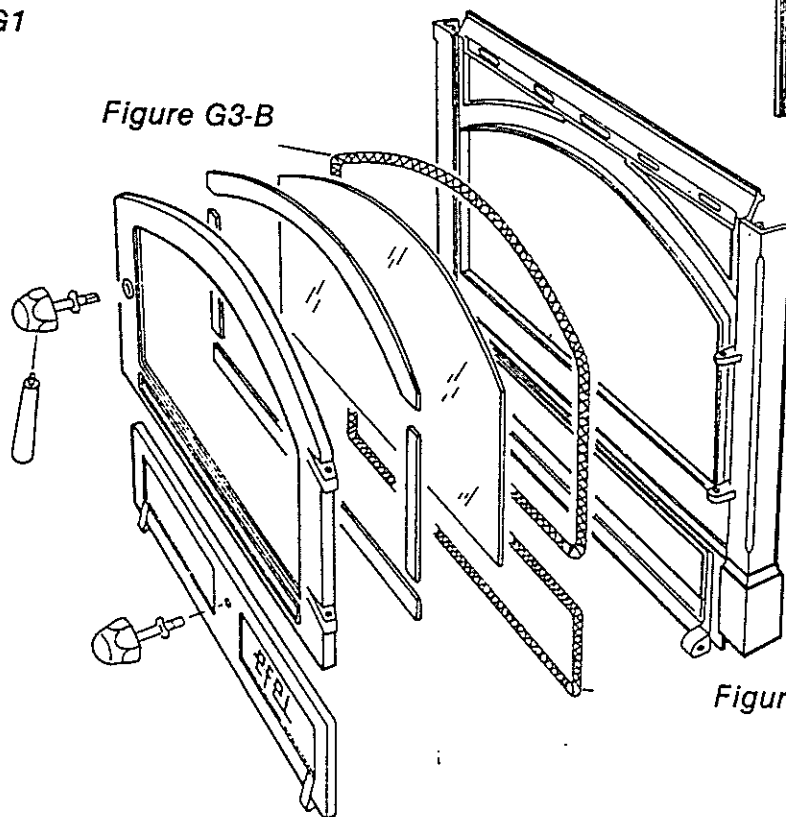

Figure G3-A
3. Ash Pan Door Gasket (Figure G3-A) 1/2 x 44.5 inches long.
4. Front Door Gasket (Figure G3-B) 1/2 x 61.5 inches long.
5. Glass Door Gasket (Figure G3-C) 4 pieces fiber ceramic - must be ordered direct from your local dealer.